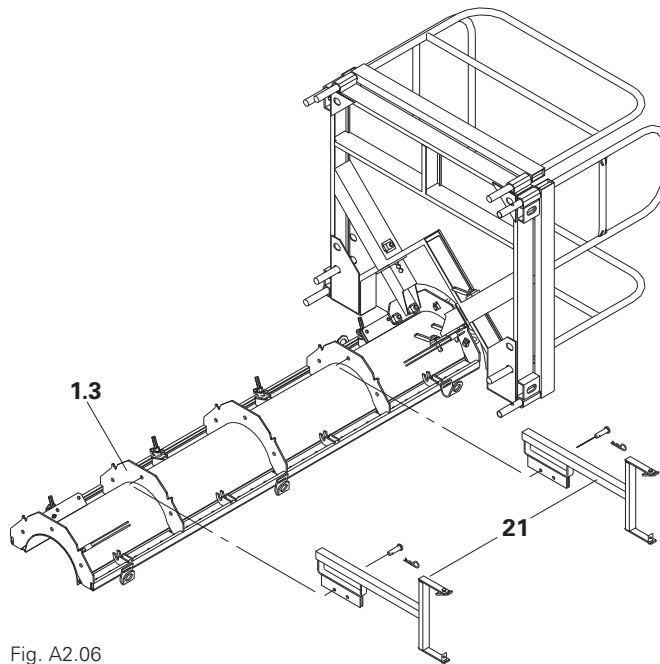
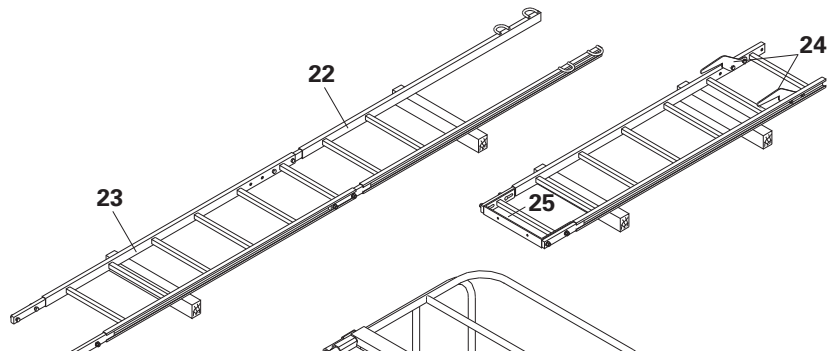

Fig. A2.06
Fig. A2.07
1. Mount ladder connections (21) using bolts and cotter pins in the column web (1.3). (Fig. A2.06)
- Attach Ladder 180/6 (23) to End Ladder 180/2 (22), SW 19. Depending on the height, mount additional Ladders 180/6.
- Fix Ladder Base (25) and Ladder Hook (24) to the bottom ladder, SW 19. (Fig. A2.07)